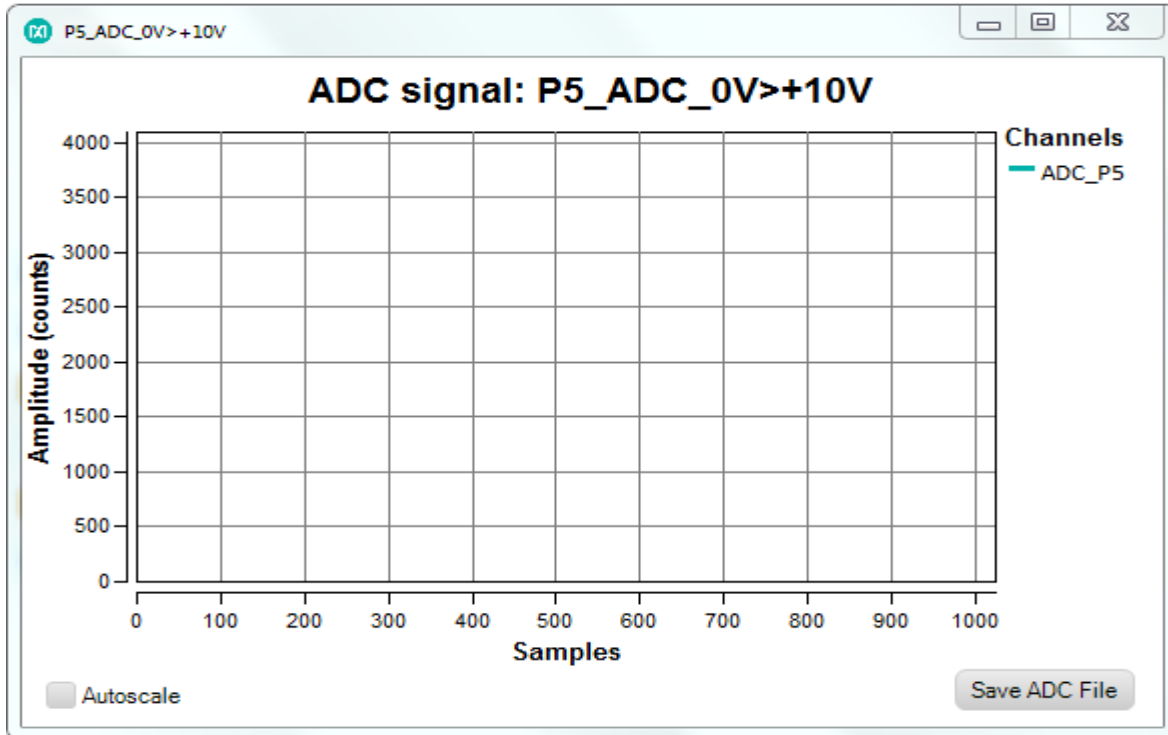

Figure 24. P5_ADC_0>+10V plot window.
2. In the drop-down menu at the top right, select **P5_ADC_0>+10V** and click the **Get plot box button**. A plot window opens and shows the analog level on the ADC as shown in **Figure 24**.